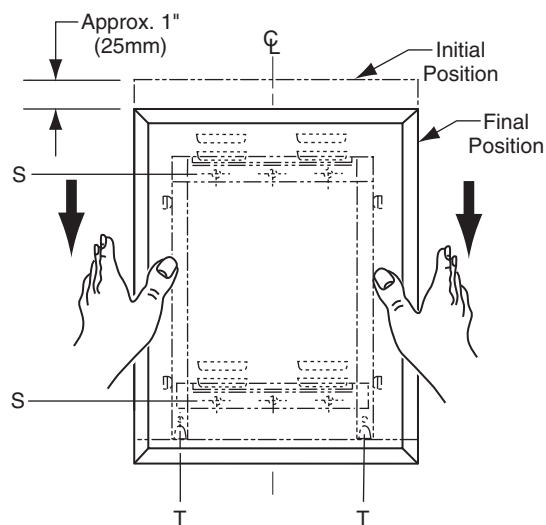

Figure: 4
**Screw Locking Design** — Lock mirror to wall hanger by tightening Phillips-head locking screws that are concealed in the bottom of frame at points indicated by a *T* (see figure 4). Mirror may be unlocked from wall hanger by loosening locking screws and lifting mirror off of concealed wall hanger.